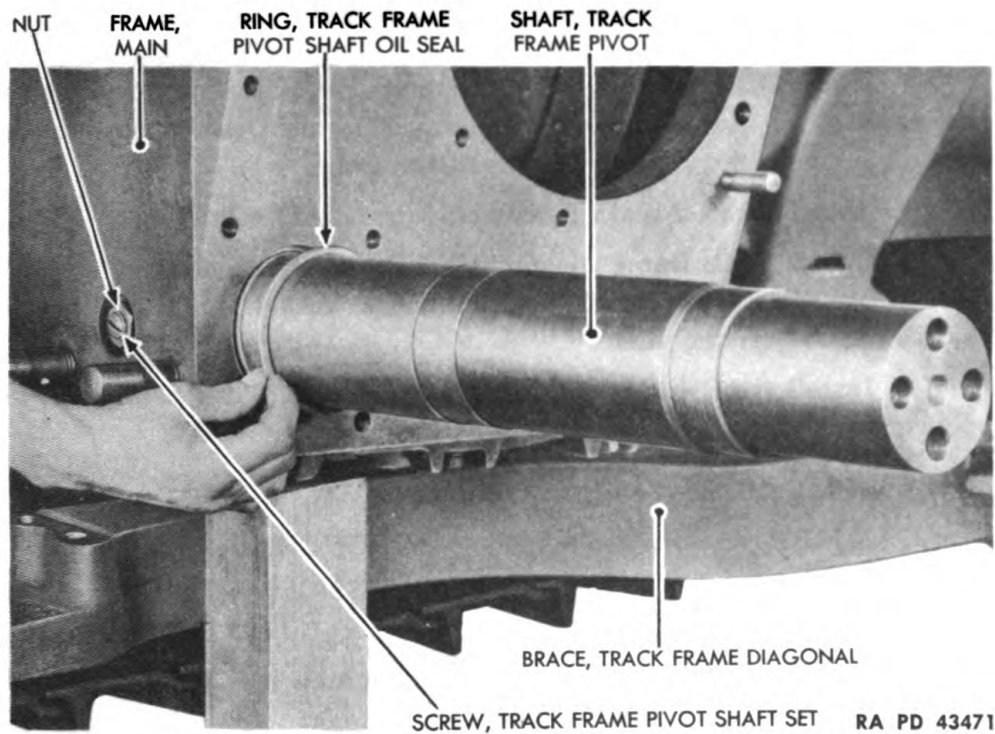

Figure 132 – Track Frame Pivot Shaft Oil Seal Ring Removal
(3) REMOVE TRACK FRAME PIVOT SHAFT (fig. 132).
(5) INSTALL TRACK FRAME PIVOT SHAFT (fig. 132).